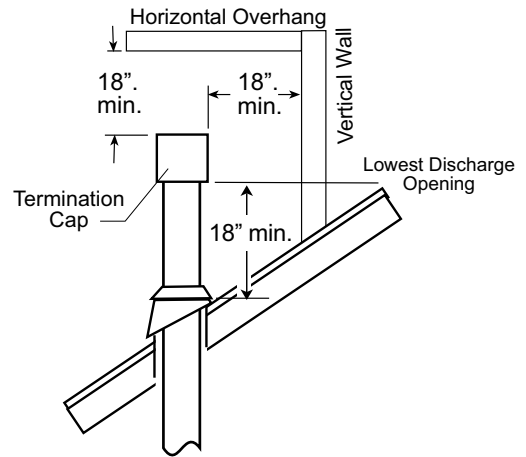

Figure 4.10. Vertical vent termination height above roof.
- **Vent Terminus Clearance:** In no case shall any discharge opening on the cap be less than 18 in. (457 mm) vertically or horizontally from any roof surface or wall. See fig. 4.10.